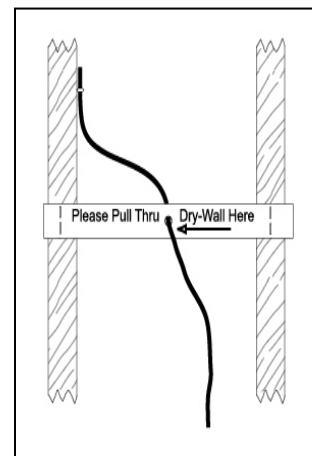

Figure 3
3. If pre-wiring without using the On-Q Pre-Construction Speaker Brackets, leave 4 to 6 feet of wire at the speakers intended location. Use a strip of cardboard stapled to the joints/studs with a hole through it as a wire place holder for the drywall installers if installation of the speakers is intended (*see Figure 3*).